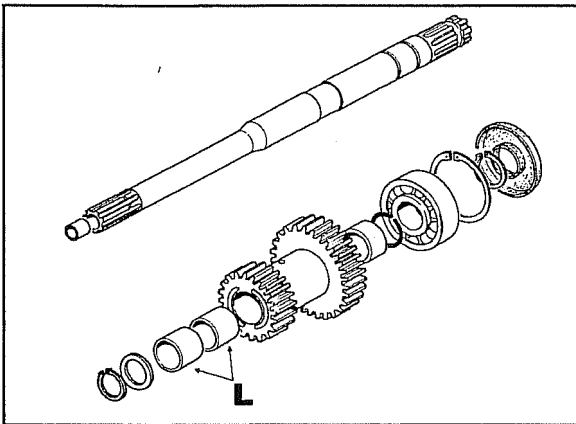

Fig. 5
Fig. 5 highlights all the parts making up the synchronised PTO.
5. Extract and substitute bronze bearings **L** Fig. 5 for the double gear.